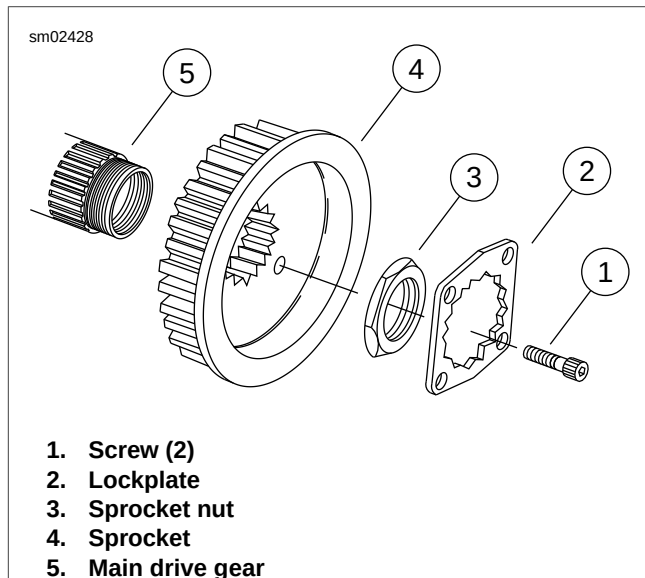

Figure 5-39. Transmission Sprocket
- a. See Figure 5-39. Remove two screws (1) and lockplate (2).
2. See Figure 5-39. Install the sprocket nut. The following procedure is based on whether a new or used nut is being used.
12. See Figure 5-39. Install screws (1) through two of the four holes in lockplate (2), then into two corresponding tapped holes in sprocket (4).